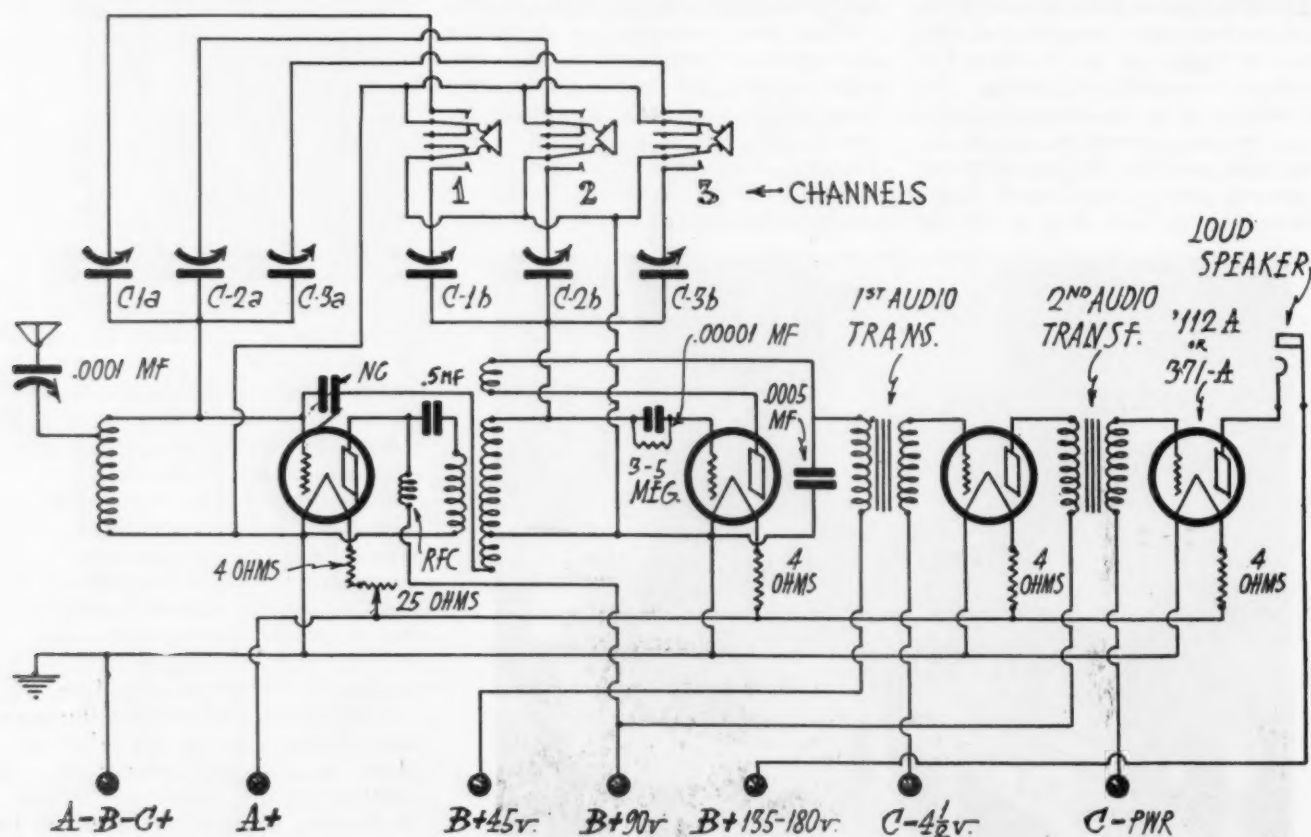

Fig. 1. Circuit for Three-Channel Automatic Radio Receiver
A conventional circuit showing the necessary connections for a push-button type receiver for three stations is shown in Fig. 1. To increase the number of stations to be received, merely increase the number of switches and tuning condensers. For all practical purposes, the use of this receiver is confined to metropolitan areas, where there are several high grade broadcasting stations. If the set is to be located at some distance from broadcasting centers, where good reception requires careful tuning, a set with adjustable dials would be preferable. The circuit has one stage of tuned r.f., detector and two stages of audio.
r.f. transformer secondary requires a .00025 mfd. variable. To automatically control these tuned circuits, merely provide a separate tuning condenser for each r.f. transformer, for each station which is to be received, so that in Fig. 1, a total of 6 tuning condensers will be required.
For the single r.f. stage circuit shown in Fig. 1, a double pole, double throw jack switch will be needed for each pair of tuning condensers, which are connected to the switch in the manner shown. If there are more than two tuned circuits, additional pairs of contacts will be needed for each extra tuned circuit, although with a receiver having two or more stages of tuned r.f., it would be necessary to take special pre-
In Fig. 1, condensers C_{1a} and C_{1b} tune the antenna coil and r.f. transformer respectively, when the switch associated with Channel 1 is operated, to the frequency selected for that channel. Likewise condensers C_{2a} and C_{2b} tune the 2nd channel, and C_{3a} and C_{3b} tune the 3rd channel. To adjust the tuning condensers, the switch is set first for Channel 1, and by the use of a screw-driver having an insulated handle, condenser C_{1a} is adjusted so that the capacity is about half the maximum amount, and then C_{1b} is turned until the station selected for Channel 1 is heard. The two condensers are then adjusted until the station is heard with maximum volume, and the adjustment can then be repeated for Channels 2 and 3.